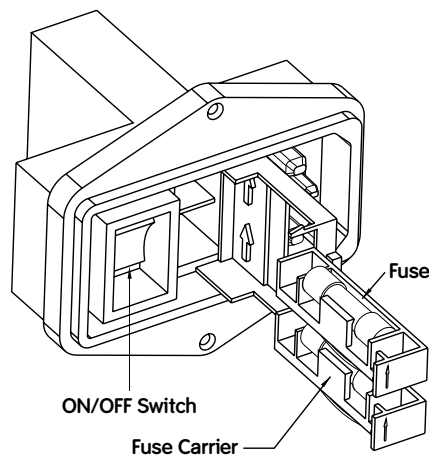

Figure 3. AC receptacle with fuses
2. Use a screwdriver to open the fuse compartment door on the AC receptacle (Figure 3) and slide out the two fuse carriers. Refer to the “Rear Panel Layout” section to locate the AC receptacle on the rear panel.